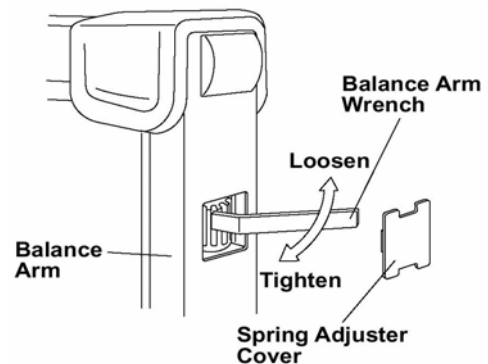

FIGURE 6.
2. If either balance arm drifts higher or lower from the set position, remove the spring adjuster cover and adjust the balance arm spring tension with the balance arm wrench. **(FIGURE 6)**